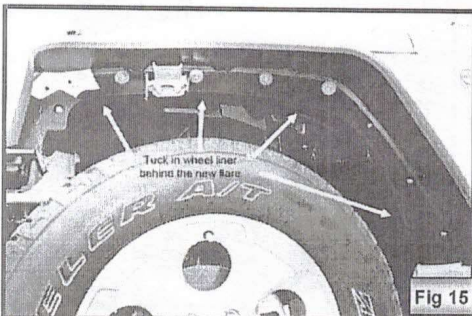

Fig 15
19. Place the cut front bushing in the wheel housing. Put it behind the new flare (Fig. 15).